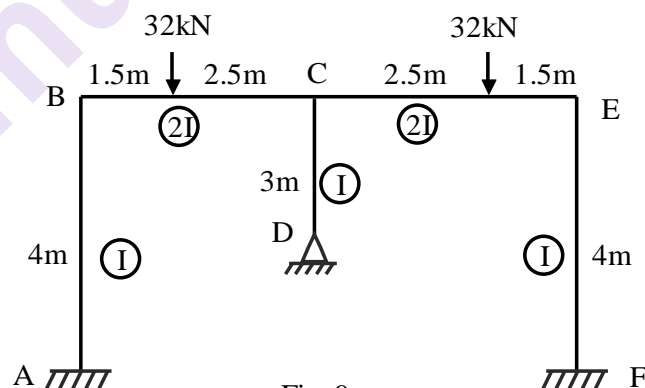

Fig. 9
8. Analyse the three legged frame as shown in fig. 9 by moment distribution methods.